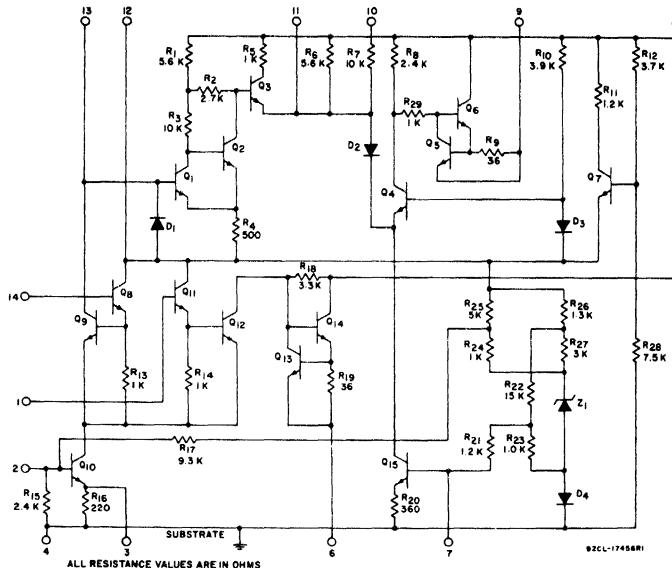

Fig. 6 - Schematic diagram for CA3071.
1. APC ADJUST: With S2 in "OFF" position adjust the "APC ADJ" potentiometer to set oscillator frequency at $3.579545\text{MHz} \pm 25\text{ Hz}$. With S1 in position 1 measure frequency at terminal No. 2 output, using crystal probe shown in Fig. 6.